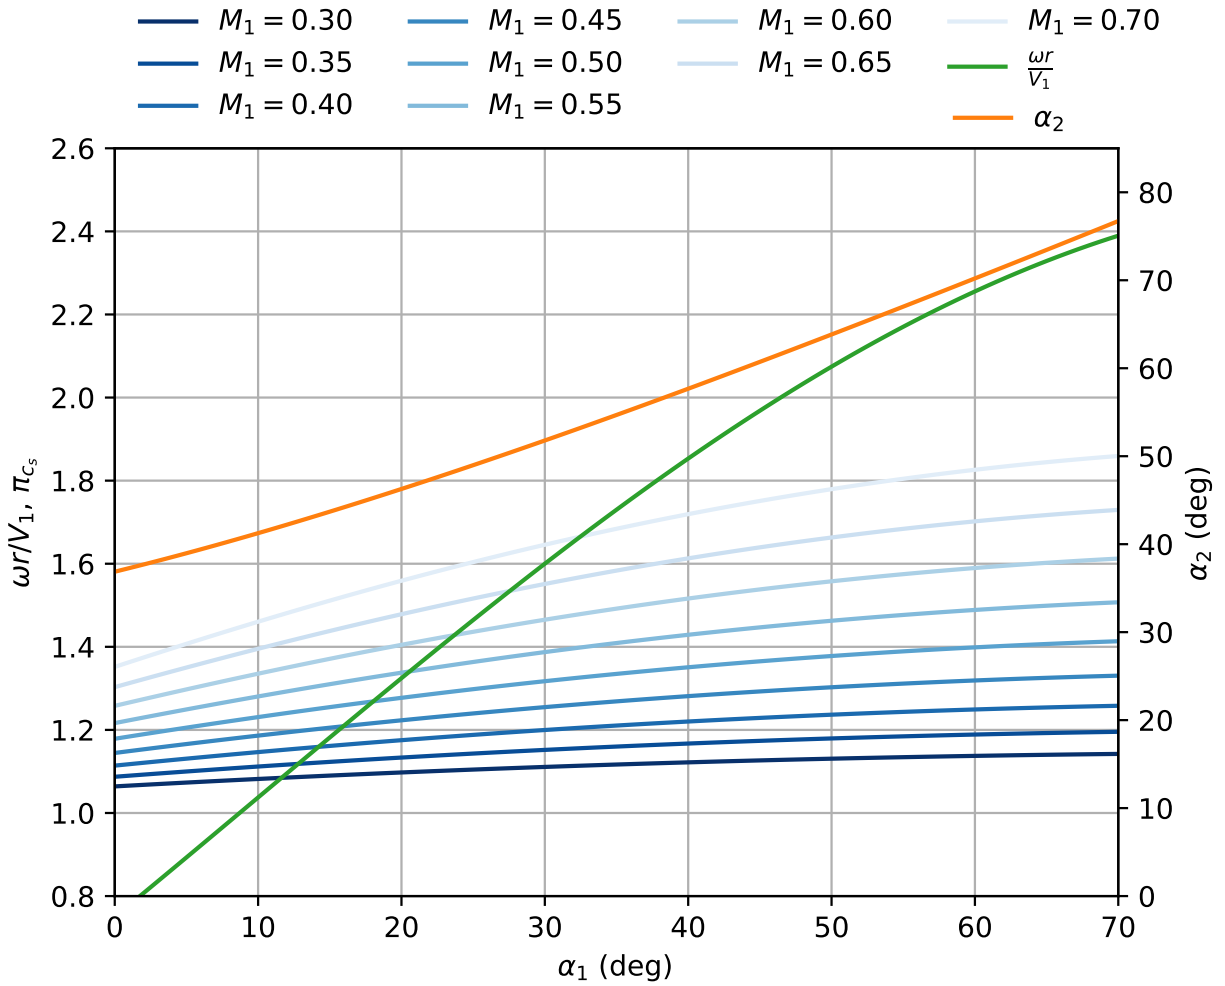

Figure 2: High pressure compressor (HPC) design for repeating-row, repeating-stage.
- select a set of suitable parameters (M_1 , number of stages, etc.) from Figure 2;